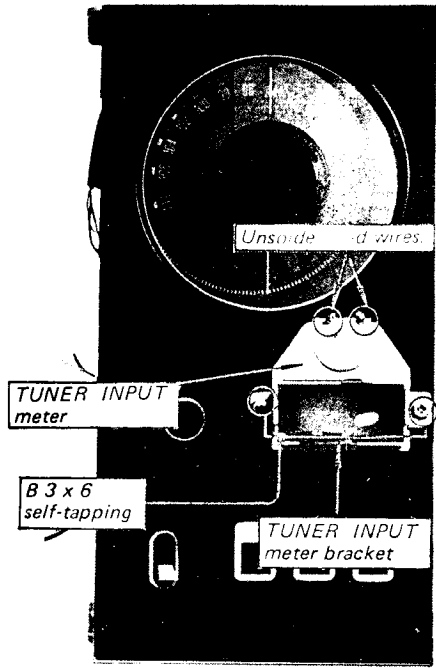

Fig. 2-12. Tuner input meter replacement
2. Unsolder the two lead wires and remove the two screws as shown in Fig. 2-12.